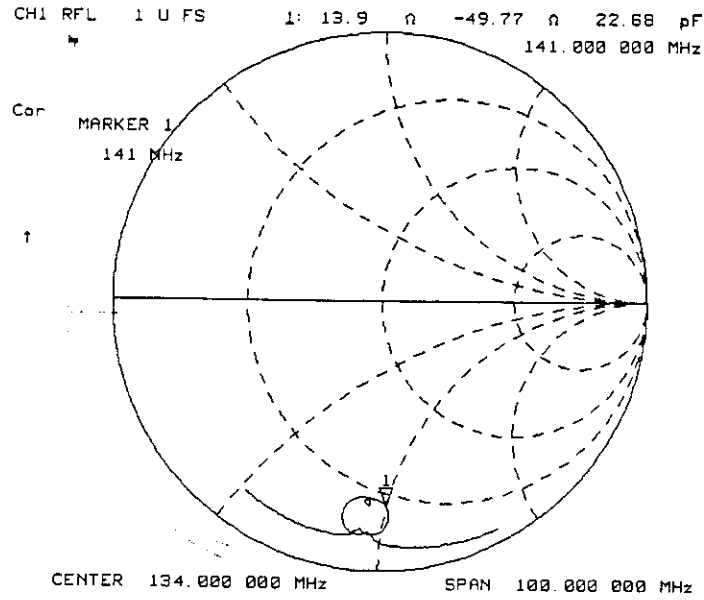

Figure 2-13. Example Impedance Measurement Trace
2. Press **MARKER** MARKER MODE MENU SMITH MKR MENU and turn the front panel knob to read the resistive and reactive components of the complex impedance at any point along the trace, as shown in Figure 2-13. This is the default Smith chart marker.